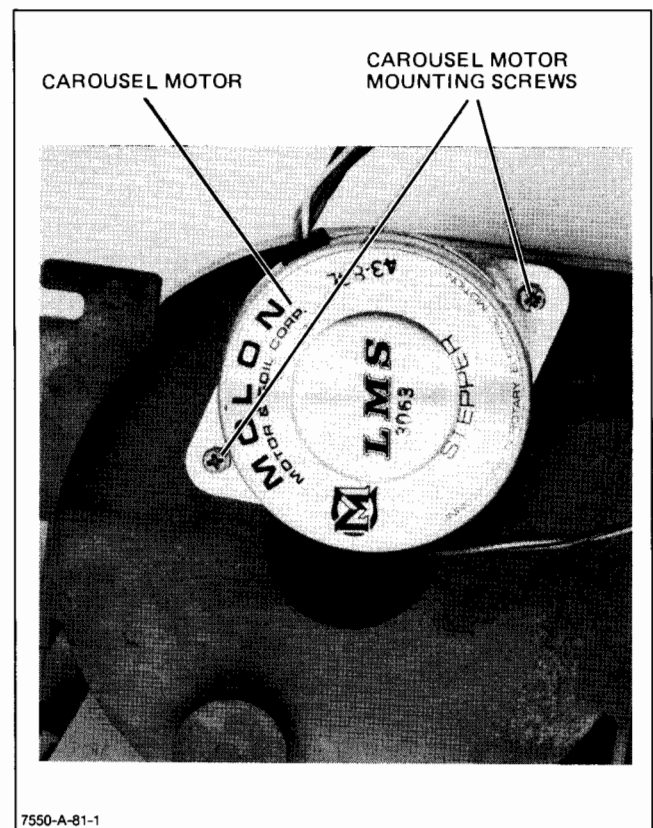

Figure 6-34. Carousel Motor Removal
- e. Remove the two carousel motor mounting screws. See Figure 6-34.